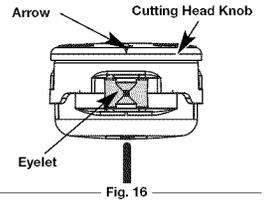

Fig. 16
1. Align the arrows on the cutting head knob with the outer spool eyelets, if they are not already (Fig. 16)